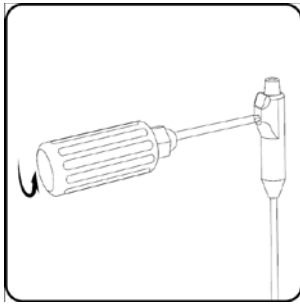

Figure 17: Use the torque wrench to turn the setscrew counterclockwise to **back up** the percutaneous extension setscrew and allow for insertion of the lead.
3. Use the torque wrench to turn the setscrew counterclockwise to back up the setscrew. Do not remove the setscrew from the connector block (**Figure 17**)